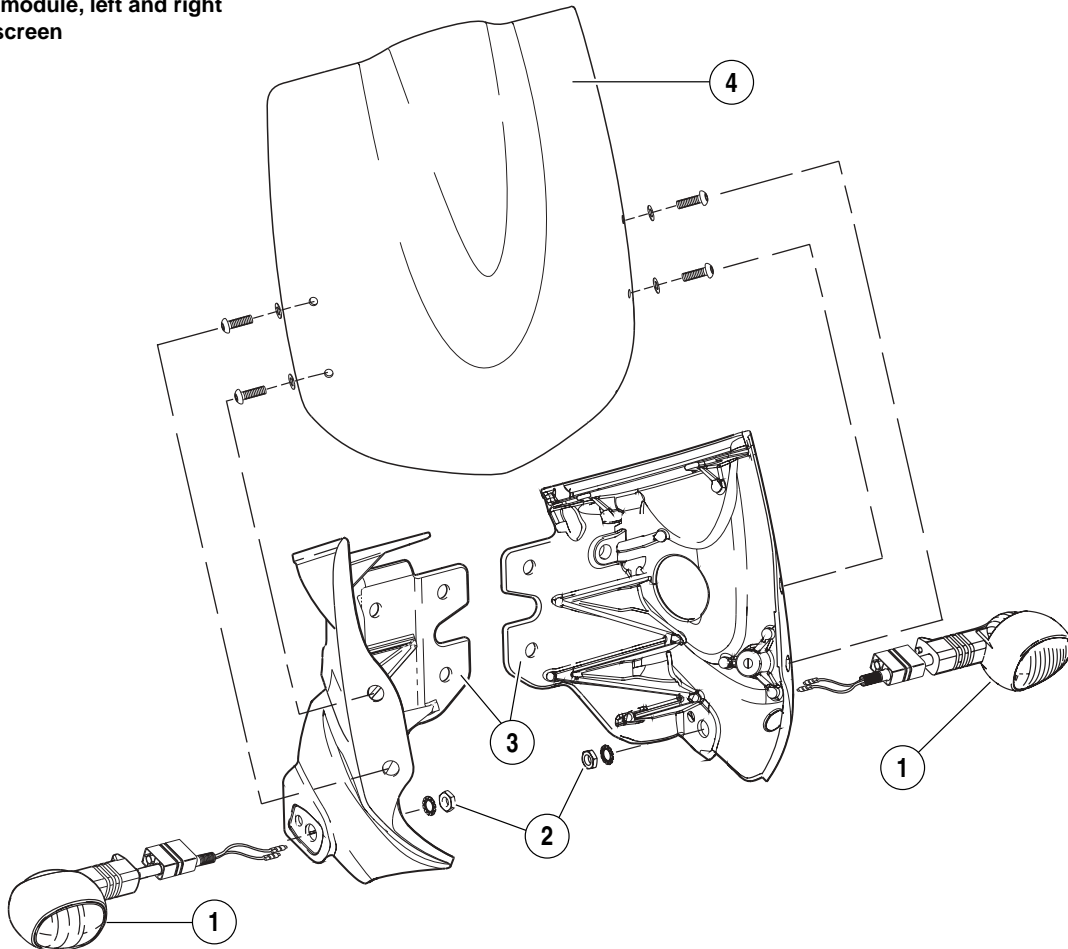

Figure 7-58. Front Turn Signals
3. See Figure 7-58. Remove jam nut and lockwasher (2) from inside of front module (3).
4. Pull bullet connectors and wiring through hole in front module (3) and remove turn signal (1).
- See Figure 7-58. Insert bullet connectors and wiring through hole in front module.